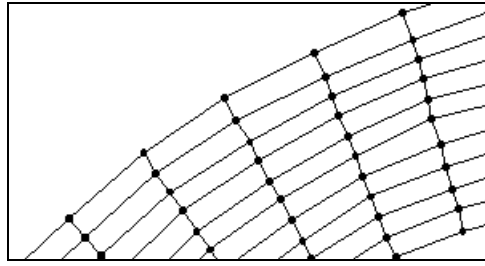

Figure 6. The mesh section after merging triangles.
- Repeat the above split/merge process until there are no more triangles across the section. This part of the mesh should look like Figure 6.